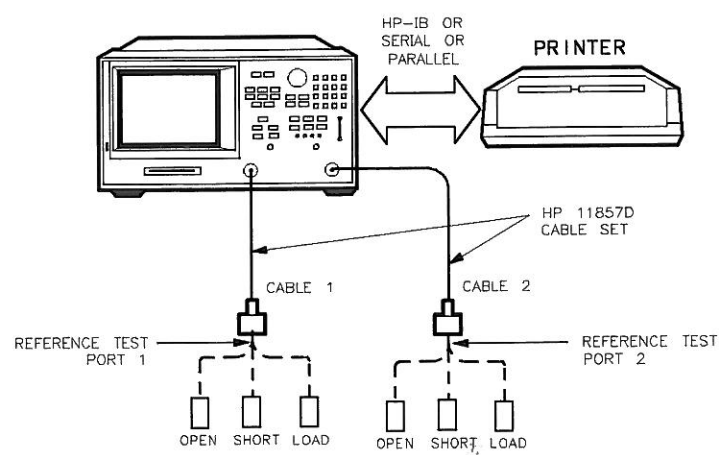

Figure 1-2. Connections for Measurement Calibration Standards
- 13. Connect the "open" end of the open/short combination (supplied in the calibration kit) to reference test port 1, as shown in Figure 1-2.